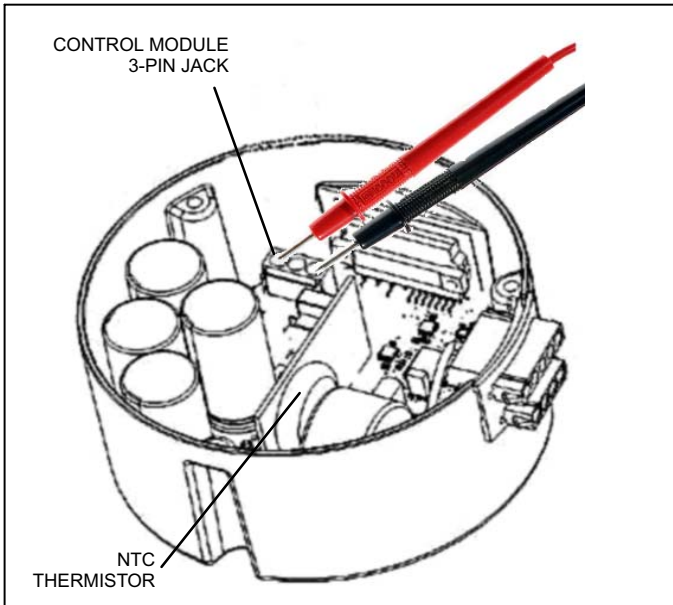

Figure 18. Module Test (Emerson)
2. Inspect the negative temperature coefficient (NTC) thermistor (see figure 18) for any cracks or breakage.
4. Check resistance between each of the three pins on the control module jack (see figure 18). Resistance between any two terminals should be greater than 100 K ohms.